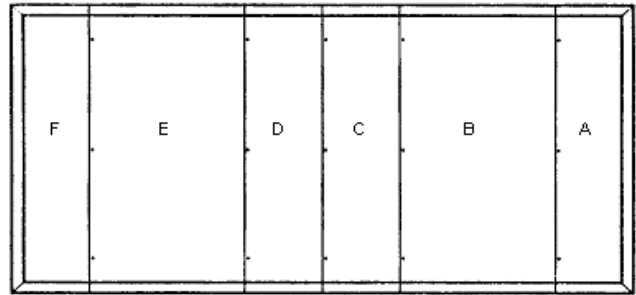

Figure 2 - Floor Panel Layout
- Refer to Figures 2 and 3 for examples of typical panel layouts. The instructions in this manual reference the panel numbers shown in the illustrations. Your walk-in may be different from that shown, but the installation procedure is the same. Refer to the floor plan drawing packed in the hardware box for your particular walk-in.
All floor panels are identified by letters. The first floor end panel will be identified by the letter "A" and remaining panels B, C, D, E, etc., in sequence (Refer to Figure 2). Place floor end panel "A" into position and level front to back and side to side. Place the remaining floor panels, locking and leveling each panel as you go. Be sure all camlocks are locked to the full cam position and all panels are level.